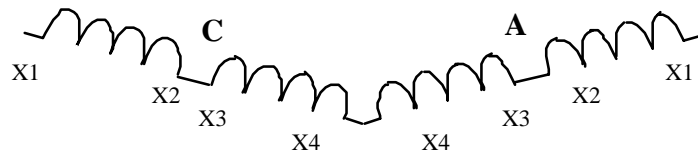

Figure 4
- d. Third, connect two of the secondary windings as shown in Figure 4 below. Turn on the power and take the primary side up to approximately 1/2 rated voltage (why do we want to do this rather than take the primary voltage up to rated?). Measure the voltage between the open terminals and explain your results in the conclusion.